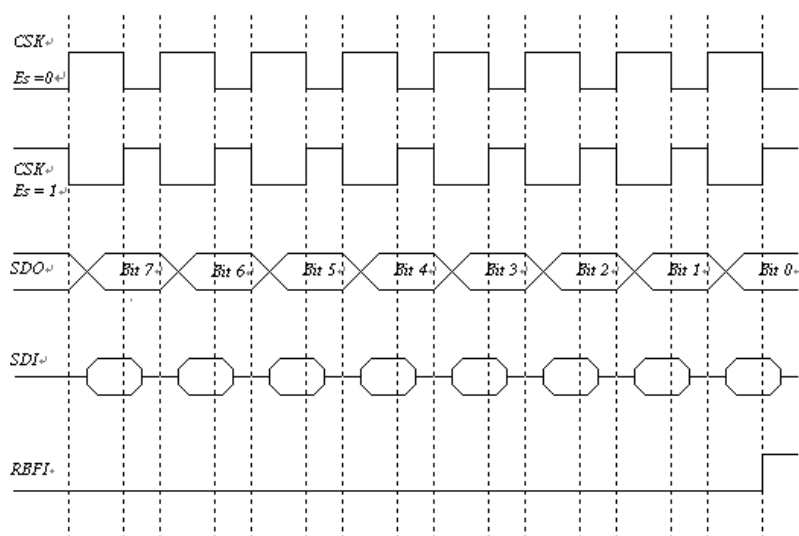
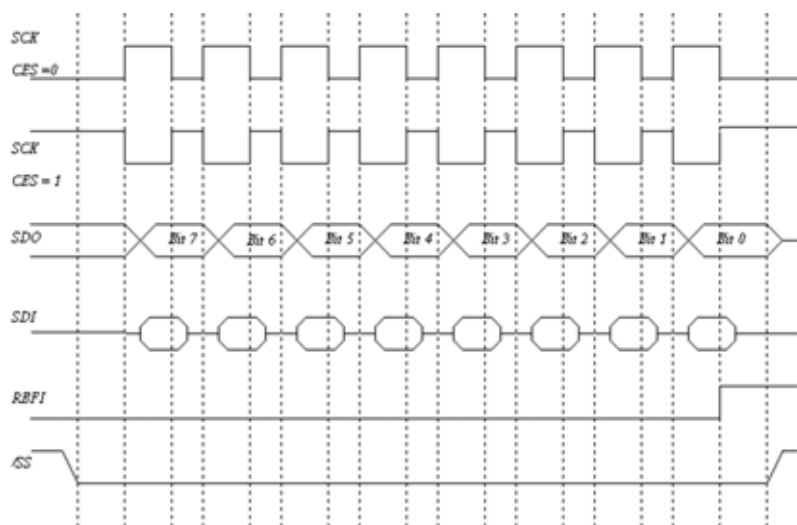

Fig. 13 SPI Mode with /SS Disable
Fig. 14 SPI Mode with /SS Enable
- Timing is shown in Fig.13 and14.
- Timing is shown in Fig.13 and 14.
- Timing is show in Fig.13 and 14
- Timing is shown in Fig.13 and Fig. 14.
The edge of SCK is selected by programming bit CES. The waveform shown in Fig.13 is applicable regardless of whether the EM78P451S is under master or slave mode with /SS disabled. However, The waveform in Fig. 14 can only be implemented in slave mode with /SS enabled.